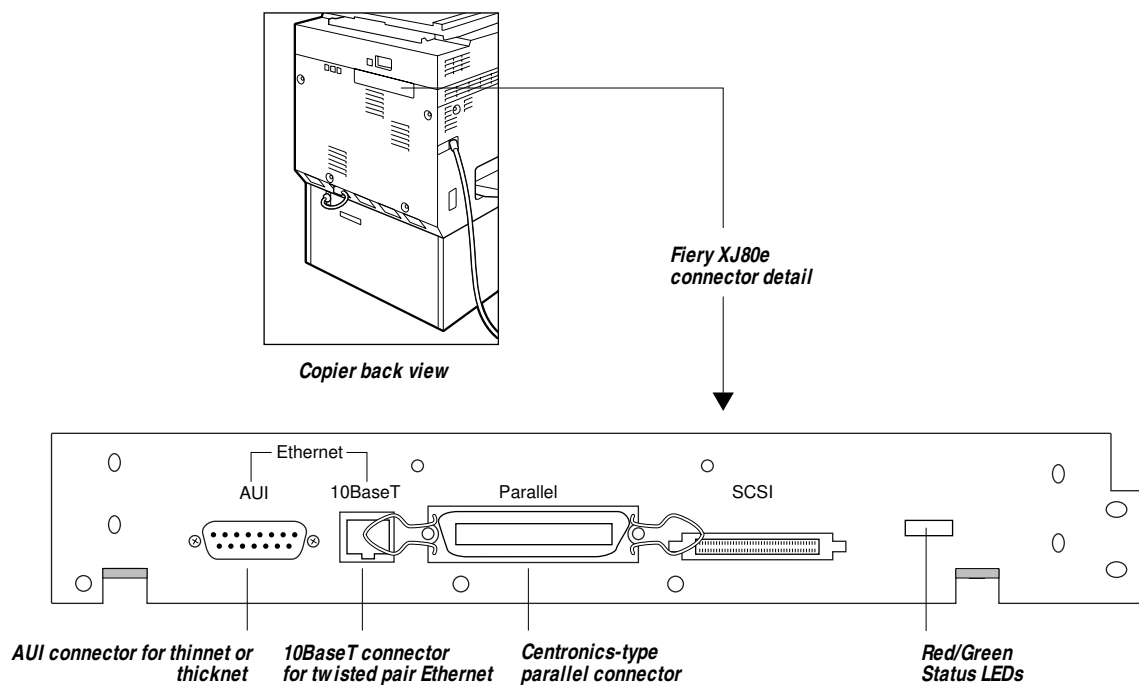

Figure 6-2 Fiery XJ80e connectors on the back of the copier
- Check that all external interface cables to the system are plugged into the proper connectors on the back of the copier (see Figure 6-2).